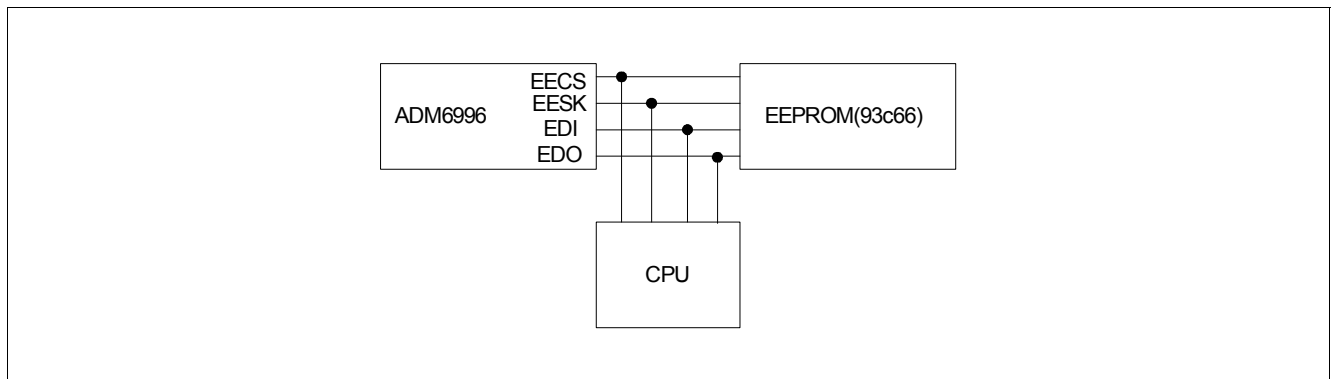

Figure 14 Interconnection between ADM6996LC/LCX/LHX, EEPROM and CPU
Three ways are supported to configure the setting in the ADM6996LC/LCX/LHX: (1) Hardware Setting (2) EEPROM Interface (3) SMI Interface. Users could use EEPROM and SMI interfaces combined with the CPU port to provide proprietary functions. Four pins are needed when using these two interfaces. See Figure 14 for the description.